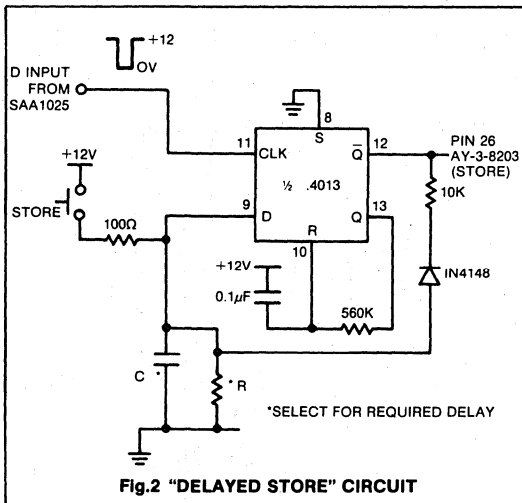

Fig.2 "DELAYED STORE" CIRCUIT
- (b) Alternatively using the circuitry shown in Fig. 2, the following procedure is available: